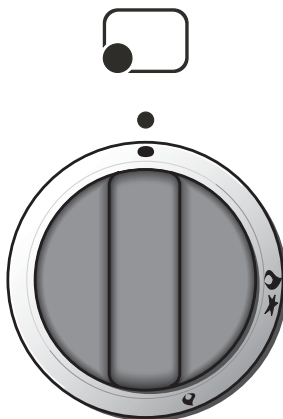

Fig. 4.3
Each hob burner is controlled by a separate gas tap operated by a control knob (fig. 4.3) which has 3 positions marked on the knob, these are:
- 1) Lightly press and turn the knob anti-clockwise, and make the symbol 🔥★ printed on the knob to match with the indicator on the control panel (fig. 4.3).